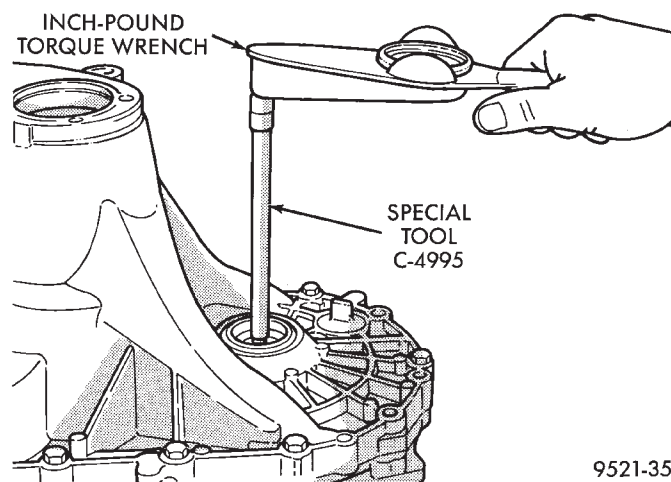

Fig. 152 Checking Differential Bearing Turning Torque
(7) The shim required for proper bearing preload is the **total of end play, plus (constant) preload of 0.18mm (0.007 in.)**. Never combine shims to obtain the required preload.
(8) Remove case bolts. Remove clutch bellhousing differential bearing cup. Install shim(s) selected in Step 7. Then press the bearing cup into clutch bellhousing.
(9) Install clutch bellhousing. Install and torque case bolts to 26 N·m (19 ft. lbs.).
(10) Using Special Tool C-4995 and an inch-pound torque wrench, check turning torque of the differential assembly (Fig. 152). **The turning torque should be 6 to 12 in. lbs. If the turning torque is too high, install a 0.05mm (0.002 inch) thinner shim. If the turning torque is too low, install a 0.05mm (0.002 inch) thicker shim.**